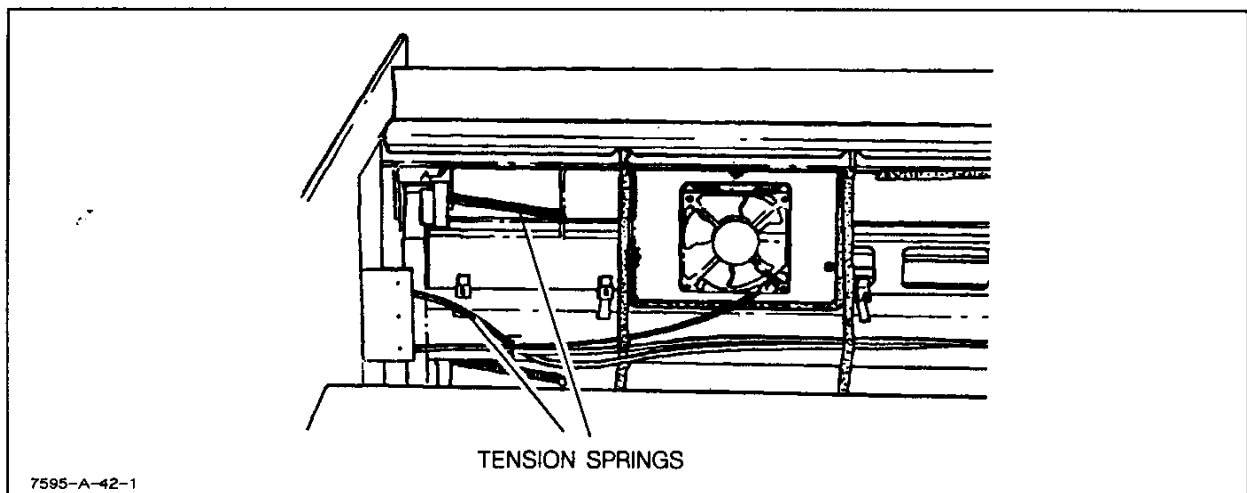

Figure 6-45. Paper Stop Assembly Removal
- a. Turn the plotter line switch to OFF (O) and disconnect the ac power cord.
- g. Unhook the two paper stop tension spring ends that are closest to the center of the plotter. See Figure 6-45.